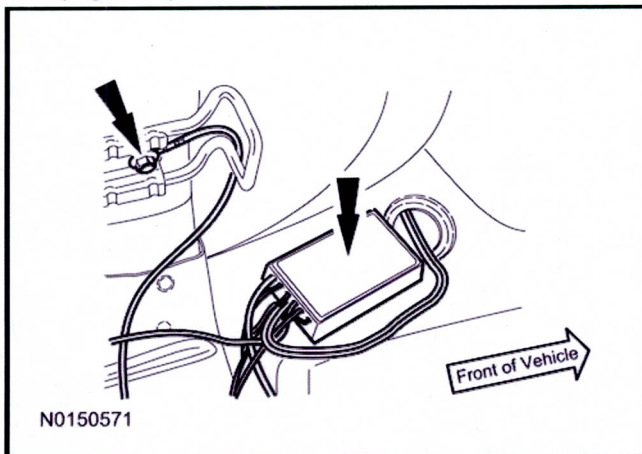

Figure 5 - Article 13-1-5
13. Connect the black (ground) wire eyelet from the converter module to the bolt located on the left D-pillar's cargo tie down. Feed the 4-pin connector through the hole in the floor pan. (Figure 5)